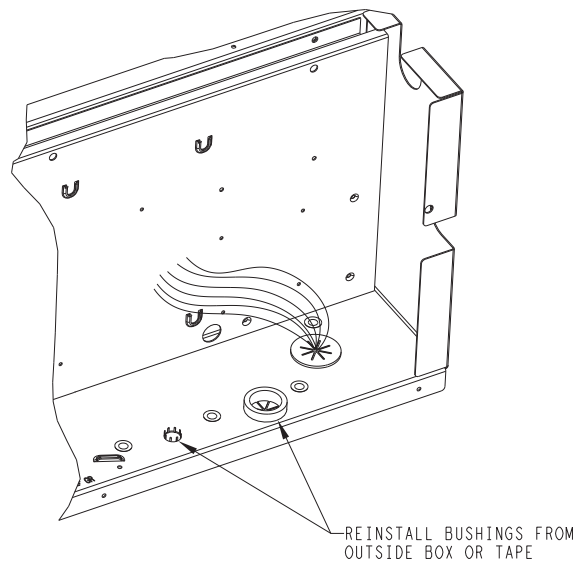

Fig. 9 — Bushings Replaced from Outside Control Box
bottom of the control box which are not used must be plugged before installing the SPB. Use foil tape or re-install the bushings from the outside of the control box prior to securing the SPB. (See Fig. 9.)
8. Remove the single point box cover. Secure single point box to the underside of the control box with the 2 screws provided. (See Fig. 1.) Re-install bushing on the SPB tap conductors. (See Fig. 9.)